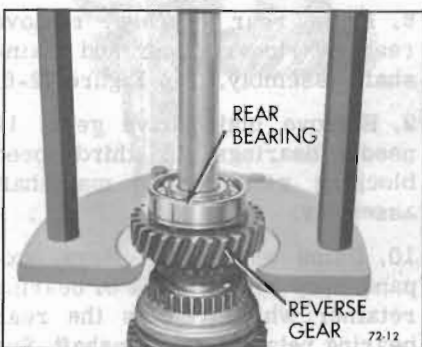

Figure 72-12—Removing Rear Bearing
3. Using ram press or arbor press, remove rear bearing, spring washer, thrust washer, and reverse gear. See Figure 72-12.